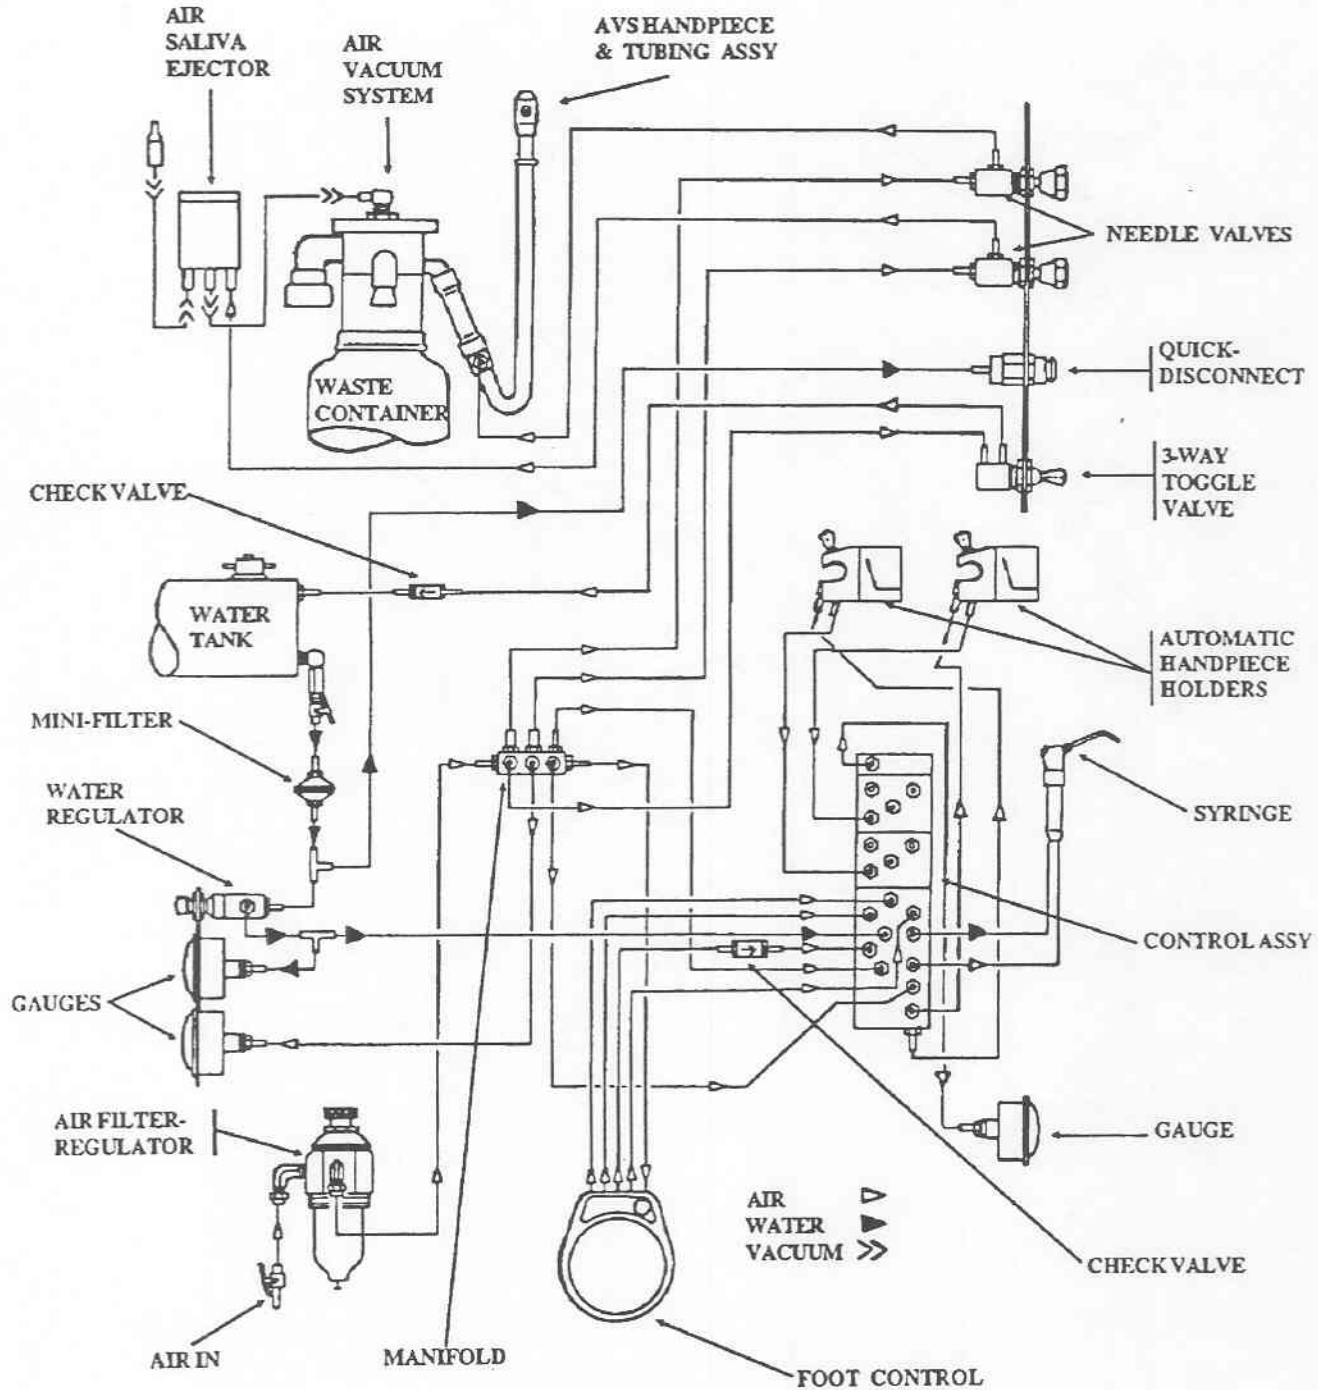

Figure 3-1. Mechanical schematic.
c. A mechanical schematic is provided in figure 3-1 for detailed troubleshooting and failure analysis.
3-16. Water regulator. (Refer to figure 3-1.)